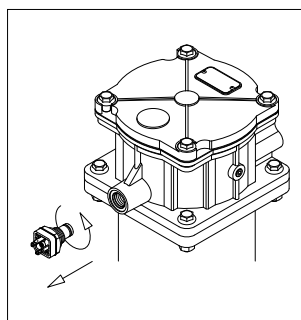

fig. 15
- (Fig. 15) Unscrew the indicator body